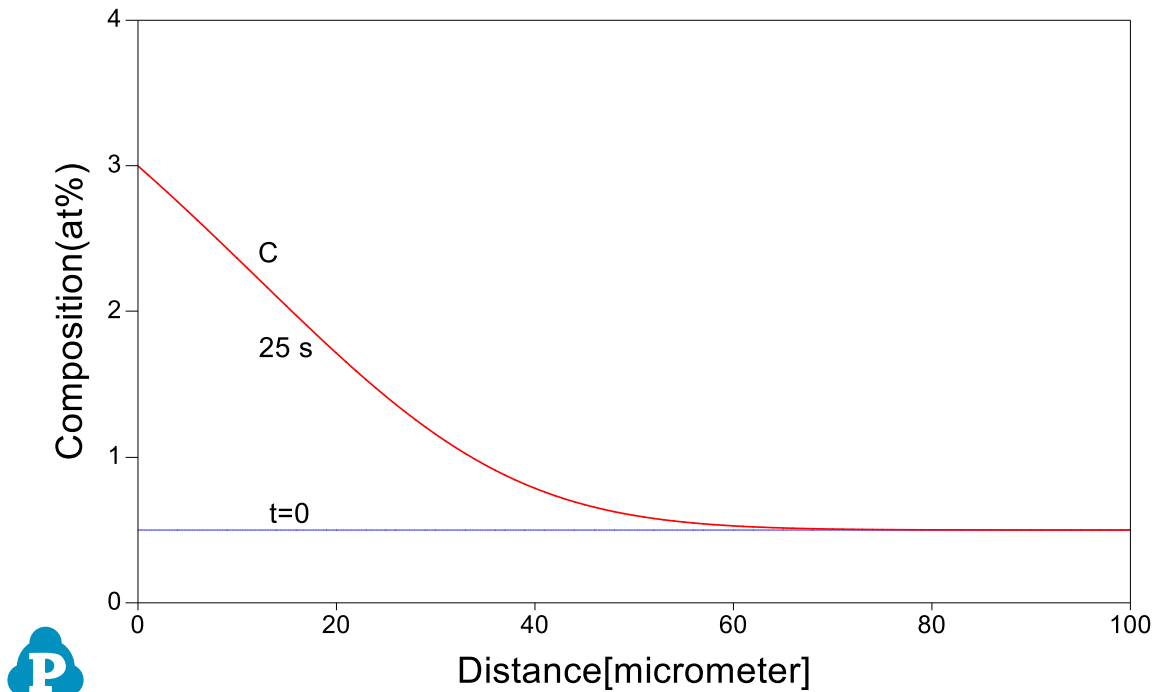

Figure 4.6.2: Calculated C composition profile for diffusion at 1200K for 25s
- The calculated plot is shown in Figure 4.6.2. Enlarge the composition range between 0 and 4 (at%) to clearly display Carbon composition. Add text and change graph appearance following the procedure in Pandat User's Guide 2.3.1;